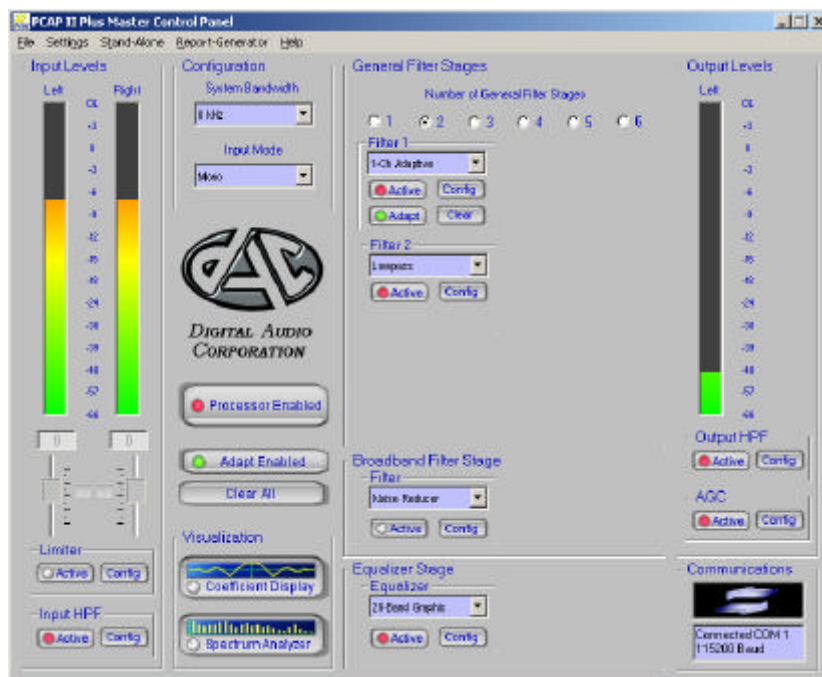

Figure 3-4 Tutorial Master Control Panel
1. With the installation procedure in Section 2.2: completed, run the PCAP II *Plus* Master Control program by clicking from the Windows Start menu on Start->Programs->PCAP II Plus->PCAP II Plus. A window similar to Figure 3-4 Tutorial Master Control Panel will appear:
2. Use the mouse* to set the **Input HPF, Limiter, Output HPF, AGC, System Bandwidth, Input Mode, Number of General Filter Stages, Adapt Enabled, and Processor Enabled** buttons as they are shown in Figure 3-4. Do not set up the Filter blocks and Equalizer blocks at this time.